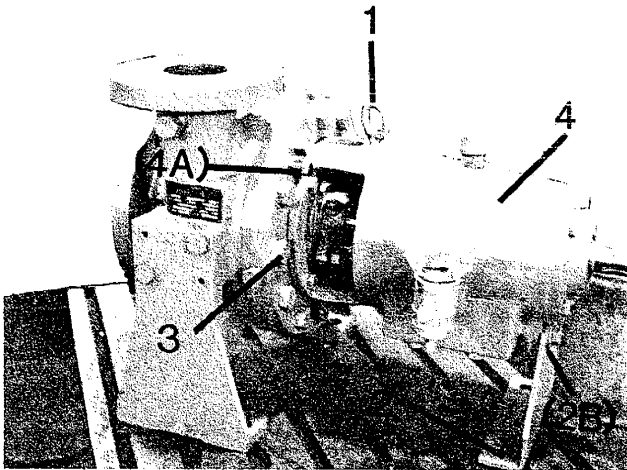

Figure 8
8. ON UNITS WITH STUFFING BOX PACKING, unbolt and remove split gland (107).
The numbers located on the following figures refer to the procedure steps. For example, number 1 on Fig. 8 refers to Step 1. The three and four digit numbers in parentheses (132), (370B), etc. refer to the part's item number.